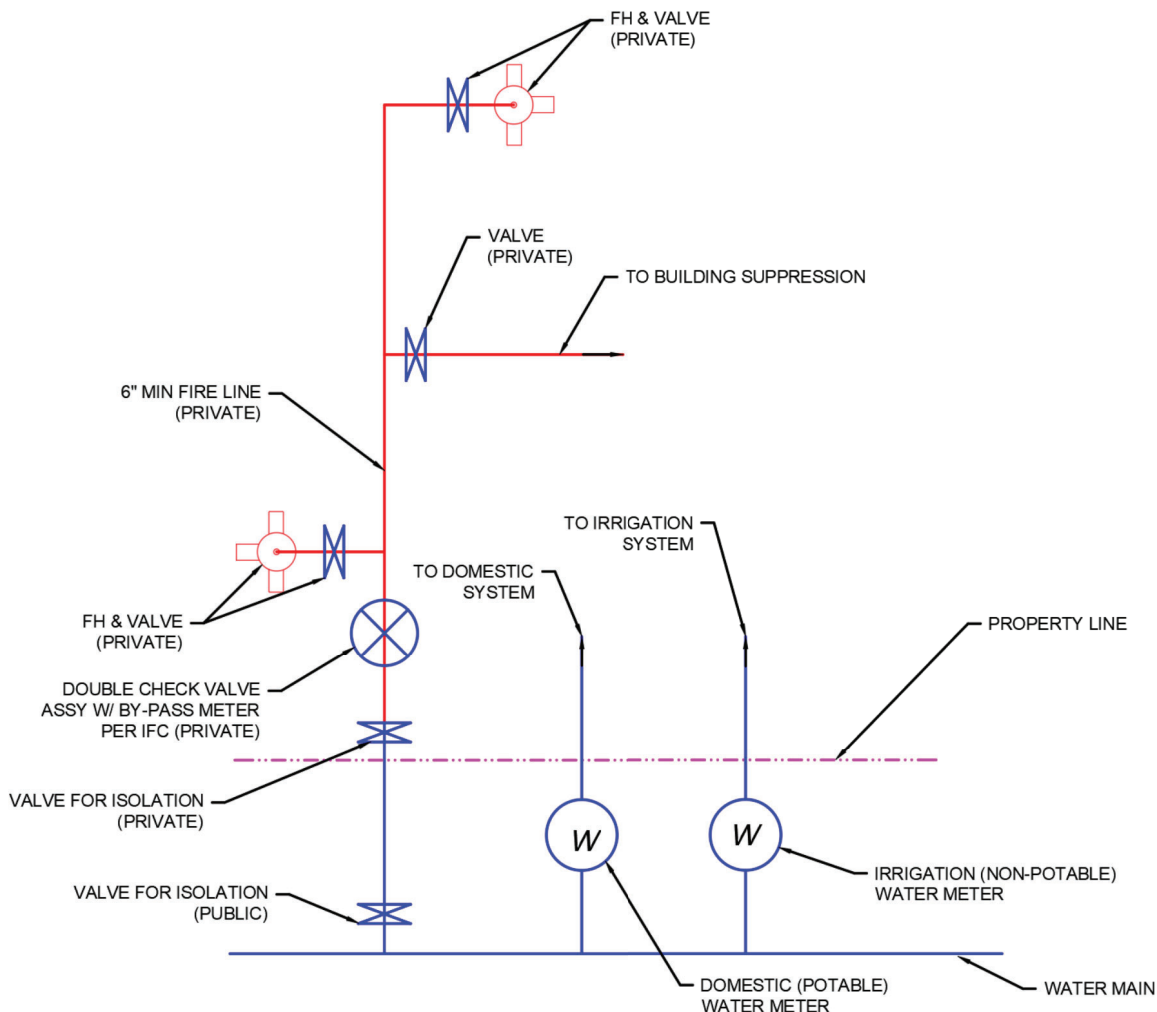

Figure 10- Fireline Installation Option 1
- 4.1. When a private water system is required for fire coverage there are three (3) different installations that can accomplish this. Figures 10, 11, & 12 shows a concept of the different installations.
- 4.1.1. Installation 1 – Have separate connections and separate water meters for the domestic and irrigation along with a separate connection for the fire line. If any private fire hydrant is required, the fire line must be a minimum of six (6) inches. (Figure 10)